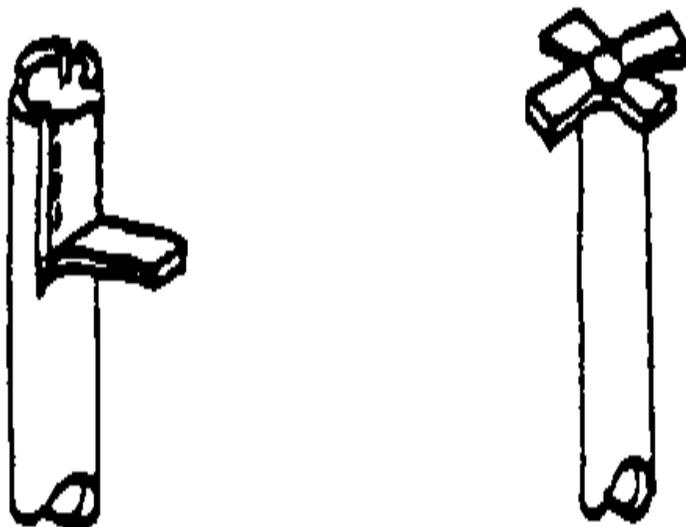

Figure 6. Bend Cut Sections
7. Bend the sections very carefully as shown in Figure 6 and flatten